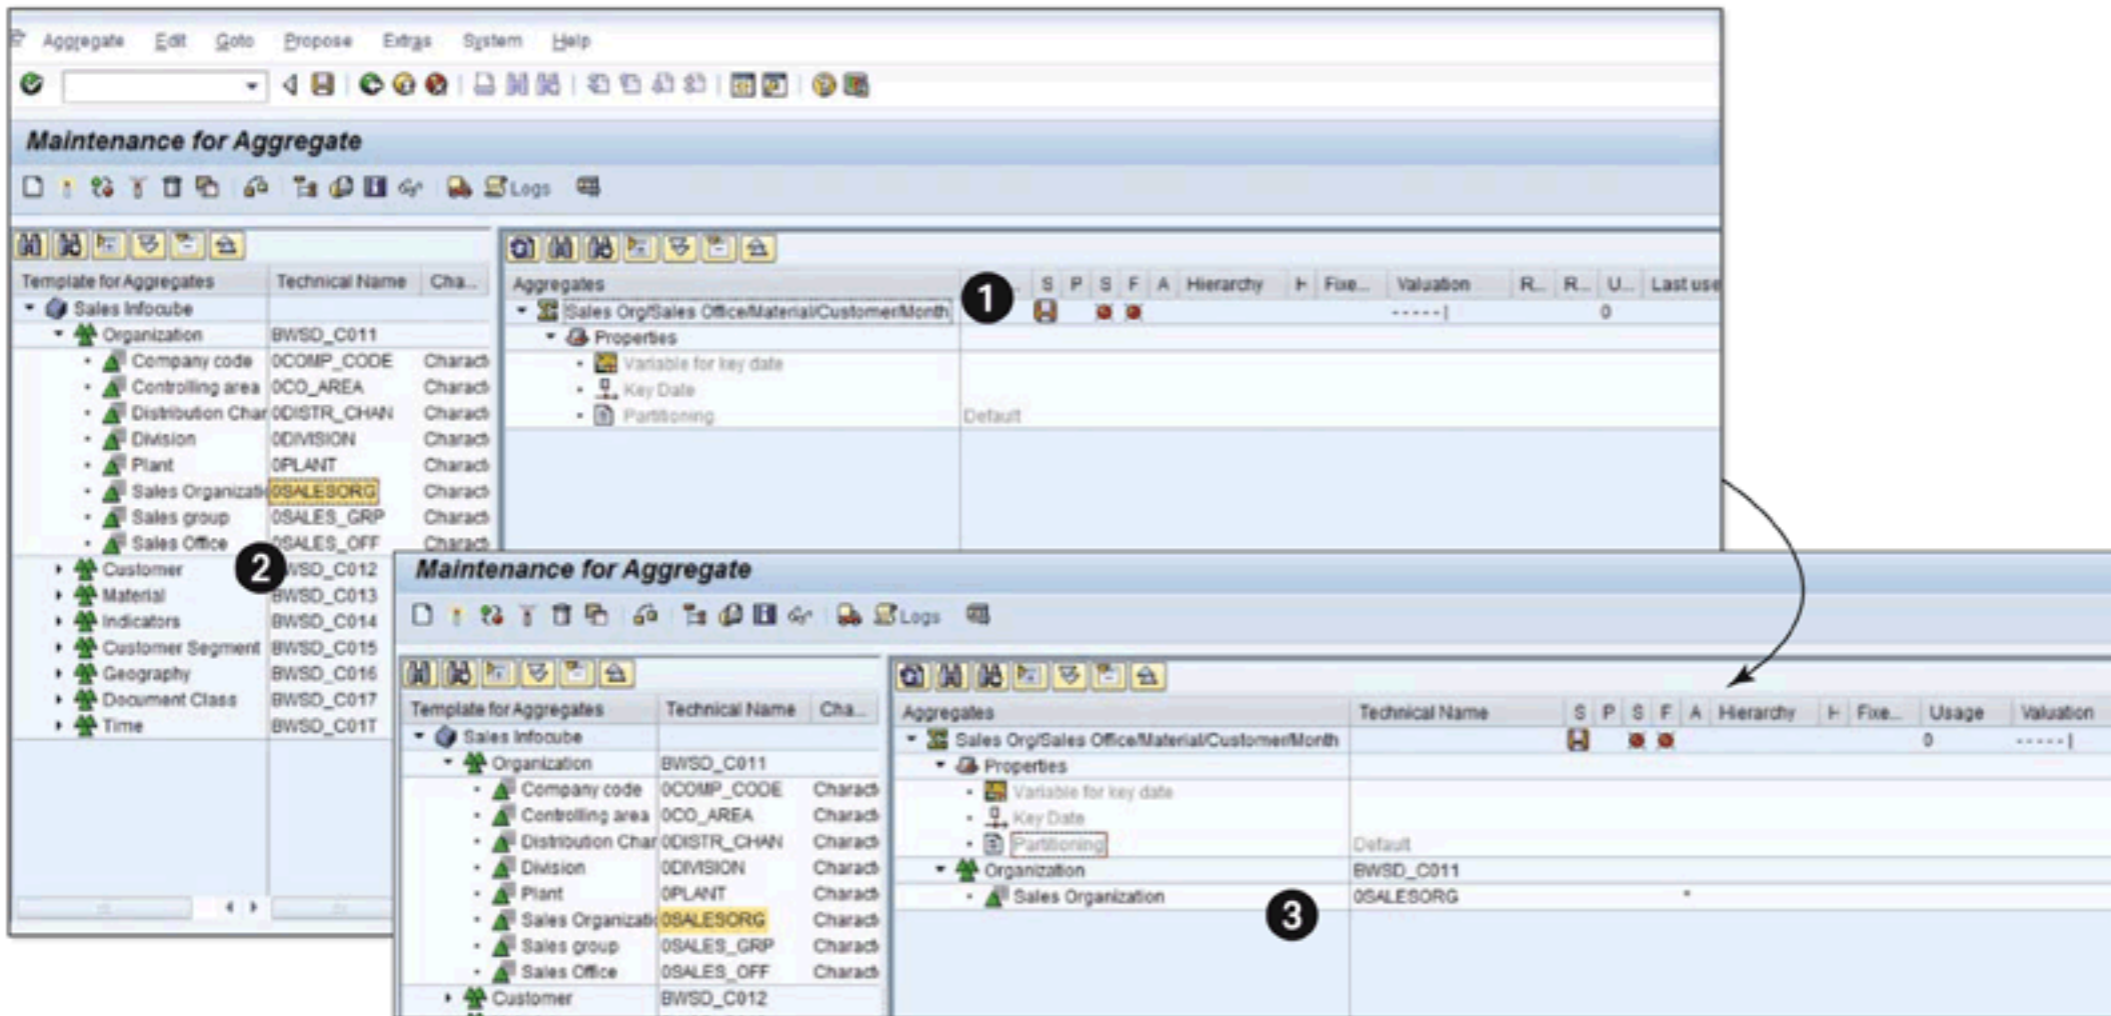

Figure 14.22 Add Characteristics to the Aggregate
By clicking on the EXPAND icon () to the left of the aggregate name (on the right panel), the properties for the aggregate are visible (❶ Figure 14.22). On the left panel, all characteristics are available within their respective dimensions. For the purpose of explanation, we select the ORGANIZATION dimension; click on the EXPAND icon to open the ORGANIZATION dimension, and all of the characteristics that are part of this dimension for InfoCube BWSD_C01 are listed (❷).